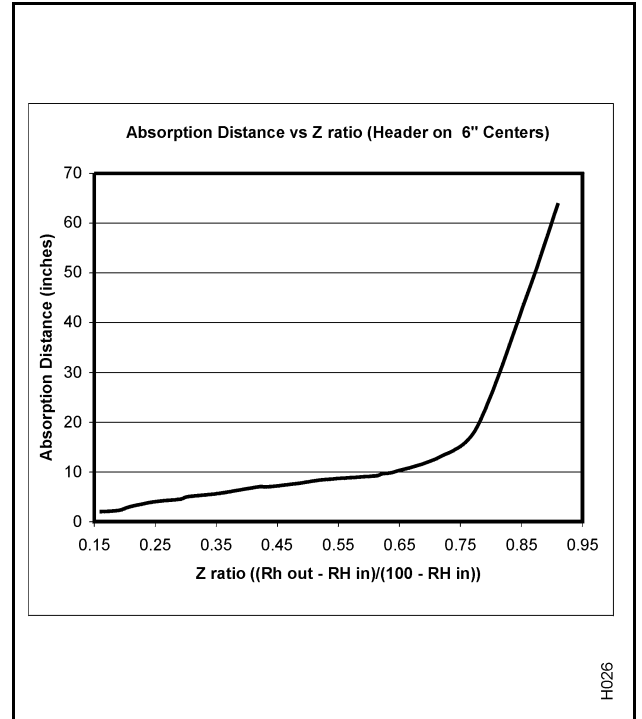
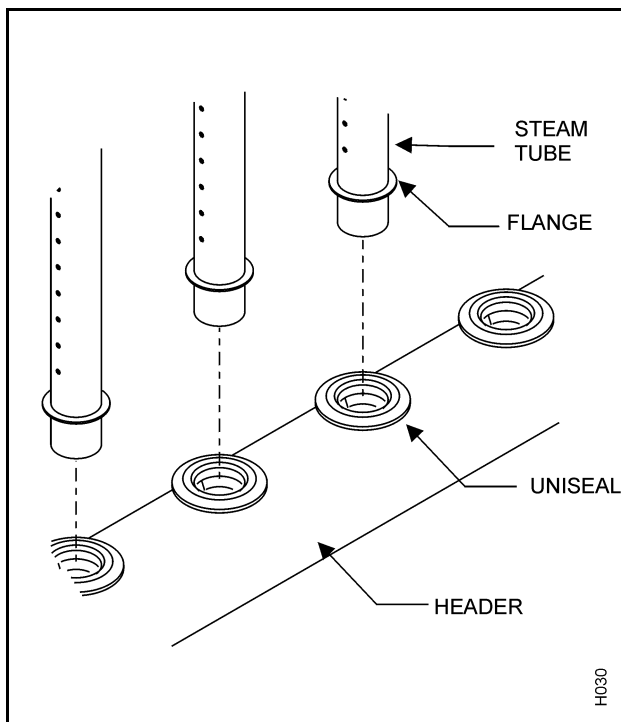

Figure 20. Absorption Distance – 6" Centers
Figure 24. SAM-e Tubes
- (1) Constructed of 1.5" (3.81 cm) OD 304 stainless steel tubing, the steam tubes can accommodate duct heights between 18" (45.72 cm) - 144" (365.76 cm) for in-duct header mounting. For smaller duct applications, a mini SAM-e can accommodate sizes starting at 12" (30.5 cm) wide x 8" (20.3 cm) high. (See Figure 20.) Each steam tube has a different amount of stainless steel nozzles to evenly disperse steam into the duct or air handling unit. The nozzles take the steam from the center of the tube, eliminating any need for jacket heating, and a temperature switch. All the accumulating condensate is drained vertically down to the main header, and then out the condensate drain. NORTEC's unique 'slip in' installation method makes for a very quick and effortless assembly. (See Figure 24.)
- (2) There is a selection of four types of steam tubes. Each are capable of distributing different capacities. To select the steam tube for your application refer to Table 17.